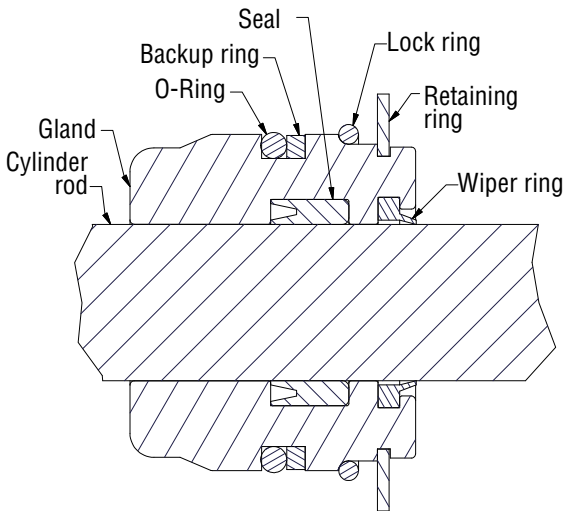

Figure 5-6, Gland Cap Seal
3. Install the seals and wipers in the gland cap. Note the direction of the seals. The cupped side or O-ring side of the seal should be facing the piston. (Figure 5-6)